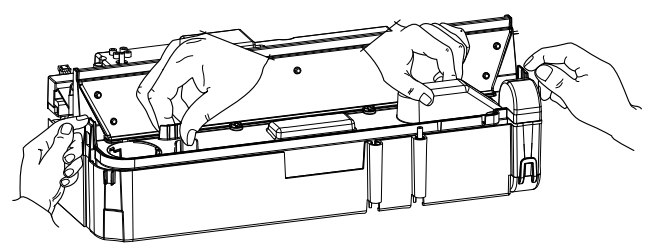

Fig.11
5. Release the right sump locking tabs by turning 90°. This allows the sump to be lifted completely from its location. (Fig. 11)